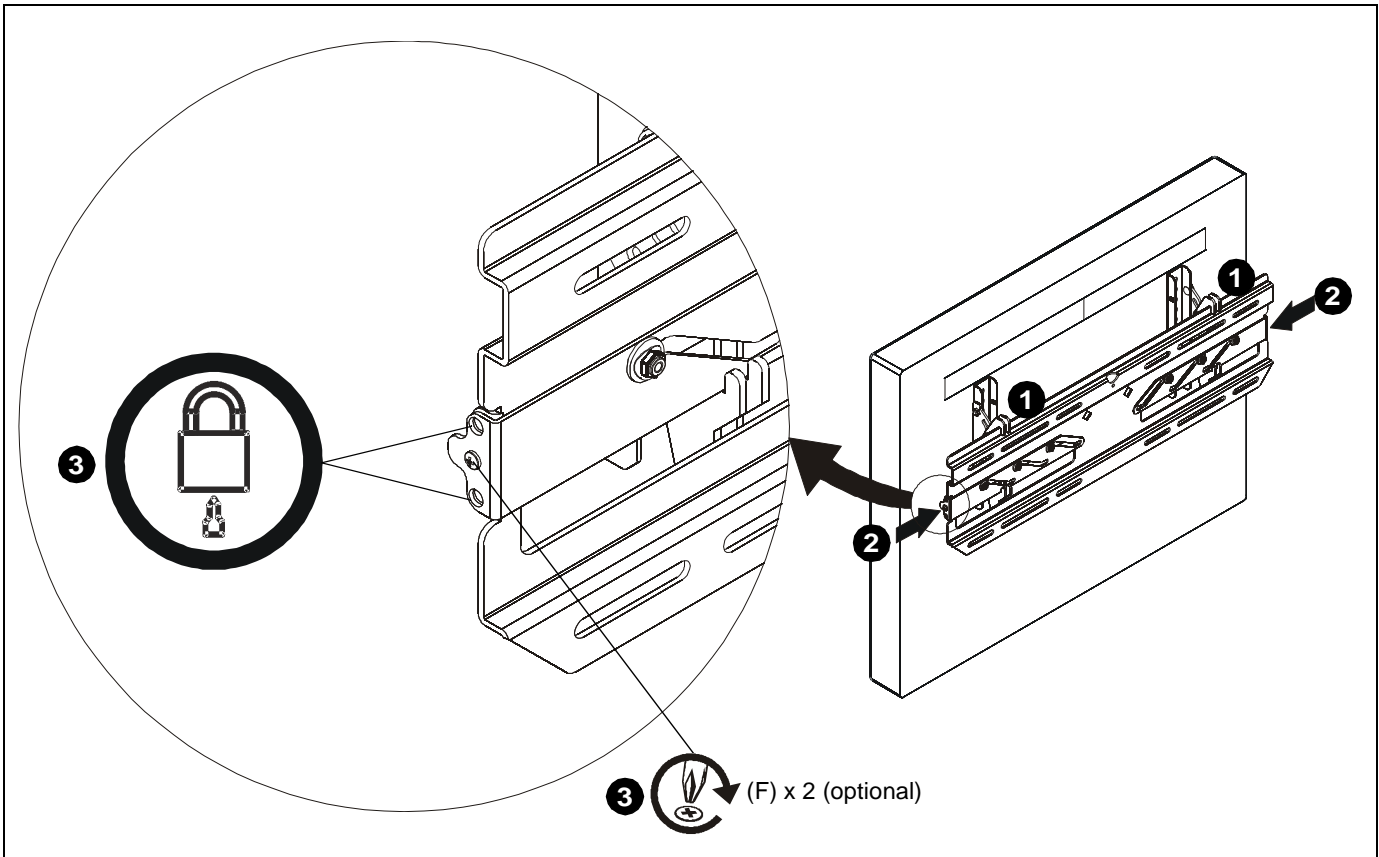

Figure 9
1. Place the display on the wall plate (A) by hooking the hooks of the brackets (B and C) in the top of the wall plate. (See Figure 9)
2. Secure the display by sliding the latches, one on each side, inward. As the latches are slid in, it will lower and catch the bottom hook and secure the television in place. (See Figure 9)
3. If desired, install self tapping screws (F) and/or padlocks (not provided) for additional security. (See Figure 9)